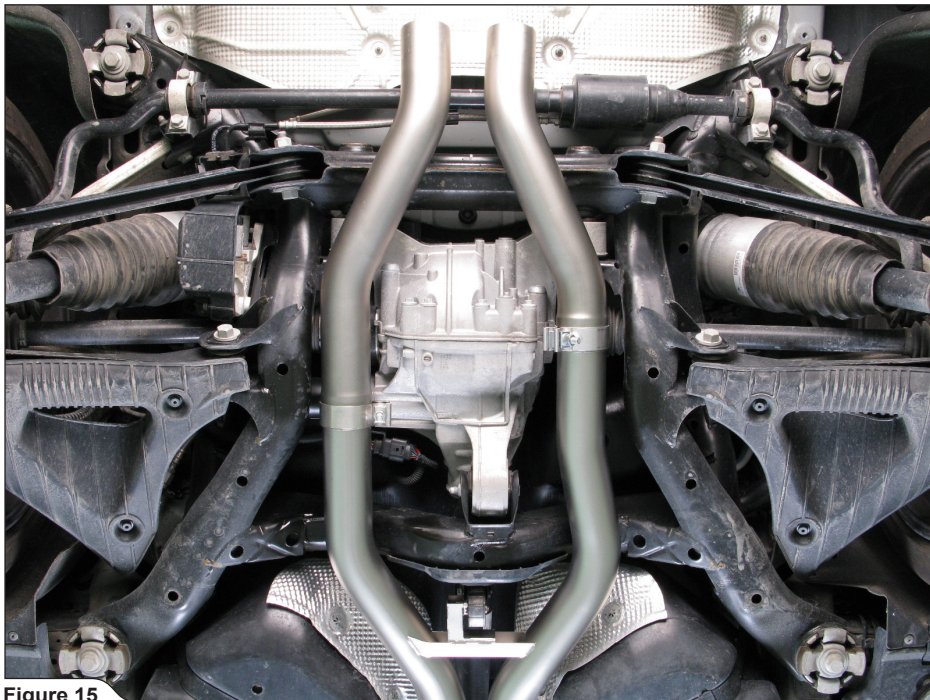

Figure 15
15. **For both systems:** slide the muffler link pipes all the way onto the middle pipes, align the link pipes and hand tighten the clamps (**Figure 15**).